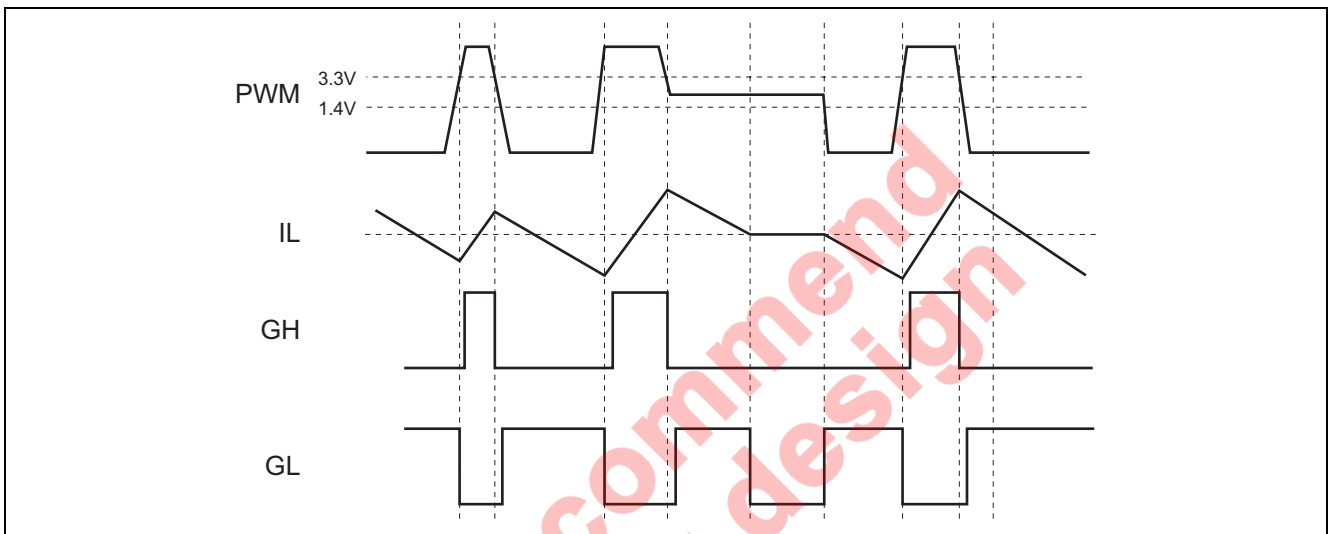

Figure 2 ZCD Operation Diagram
When the PWM input becomes middle voltage or high impedance, Zero Current Detection (ZCD) function works. Figure 2 shows the operation diagram of PWM input and inductor current (IL).